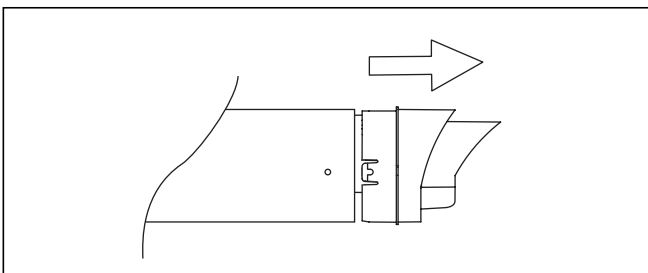

Fig. 2.26 Pulling out the terminal
- Pull the terminal with the flue duct out of the air duct (fig. 2.26).